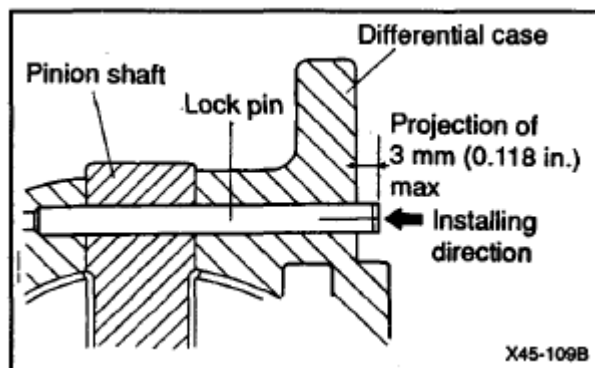

Fig. 187: Installing Pinion Shaft Lock Pin
4. Install the pinion shaft lock pin in the direction specified in **Fig. 187**.